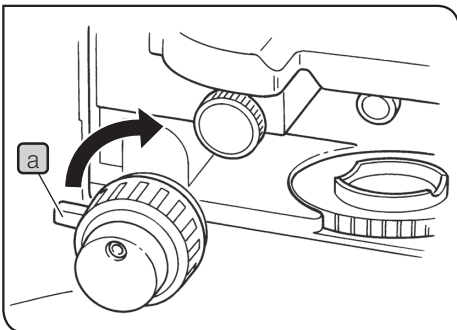

Fig.23
**5 Pre-focusing lever (Fig.23)**